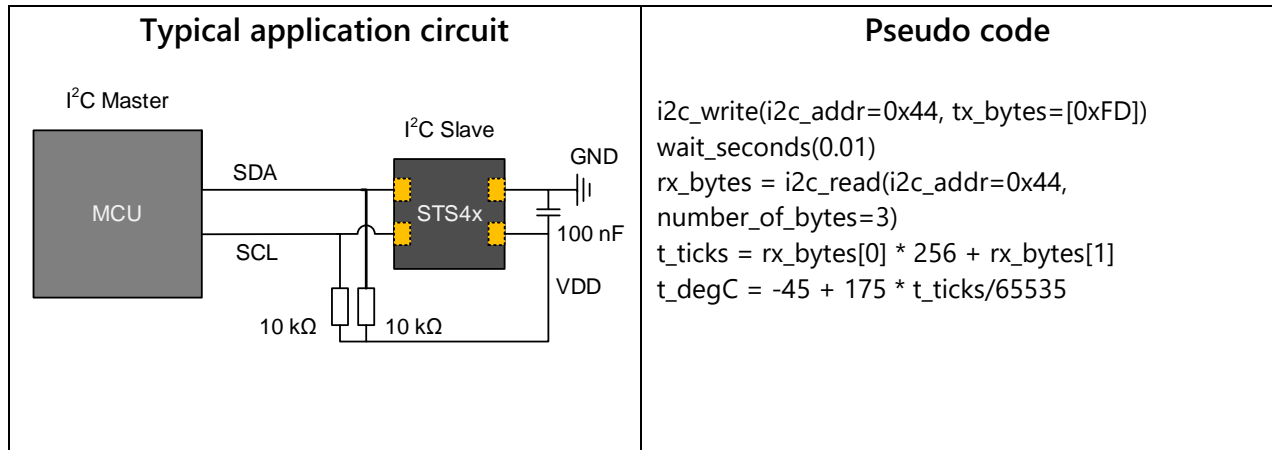

Figure 1. Typical application circuit (left) and pseudo code (right) for easy startup.
Figure 1 shows a typical application circuit for the STS4x on the left-hand side. After reaching the minimal supply voltage and allowing for the maximal power-up time of 1 ms, the sensor is ready for I²C communication. The quickest way to measure temperature is pseudo-coded on the right-hand side of **Figure 1**. Using the conversion formulae given in equations (1) and (2), the digital signal can be translated into temperature readings.